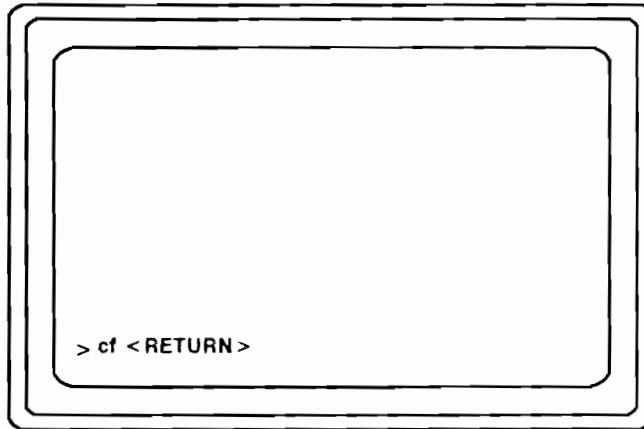

Figure 10-24. Entering the cf Command
2. Type the **cf** command as shown in Figure 10-24.